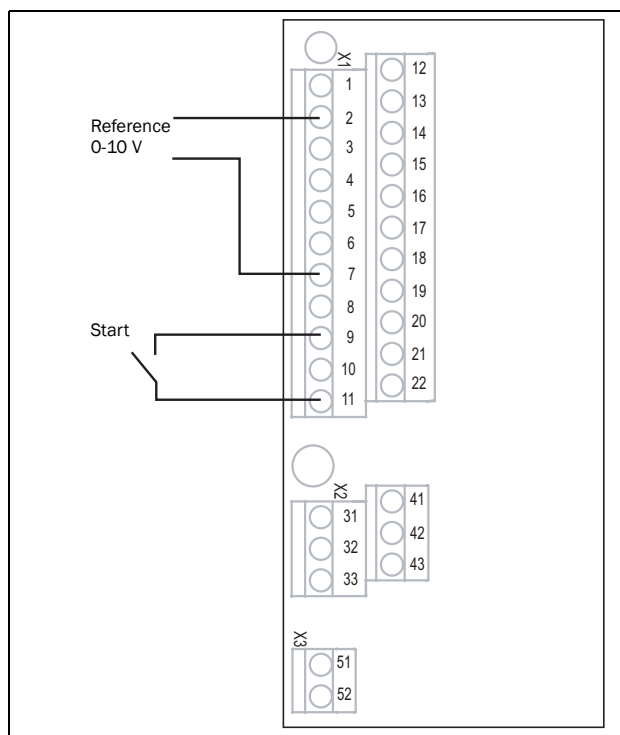

Fig. 32 Wiring
3. Connect a reference value between terminals 7 (Common) and 2 (AnIn 1) as in Fig. 32.
4. Connect an external start button between terminal 11 (+24 VDC) and 9 (DigIn1, RUNR) as in Fig. 32.
13. Connect digital and analogue inputs/outputs as in Fig. 32.